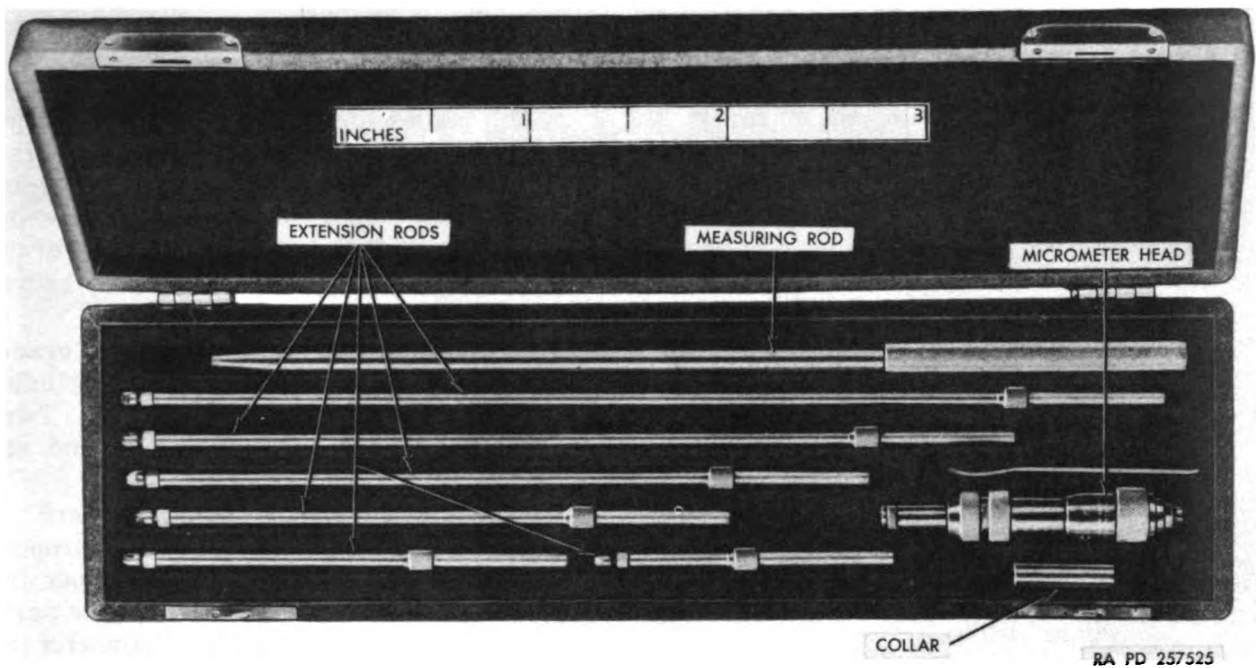

Figure 55. Inside micrometer set.
b. Inside Micrometers. Inside micrometers are used to measure inside dimensions. The minimum dimension that can be checked is determined by the length of the unit with its shortest anvil in place and the screw set up to zero. It consists of an ordinary micrometer head, except that the outer end of the sleeve carries a contact point, attached to a measuring rod. The average inside micrometer set (fig. 55) has a range that extends from 2 to 10 inches. The various steps in covering this range are obtained by means of extension rods. The micrometer set may also contain a collar for splitting the inch step between two rods. The collar, which is $\frac{1}{2}$ inch long, extends the rod another half inch so that the range of each step can be made to overlap the next. The range of the micrometer screw itself is very